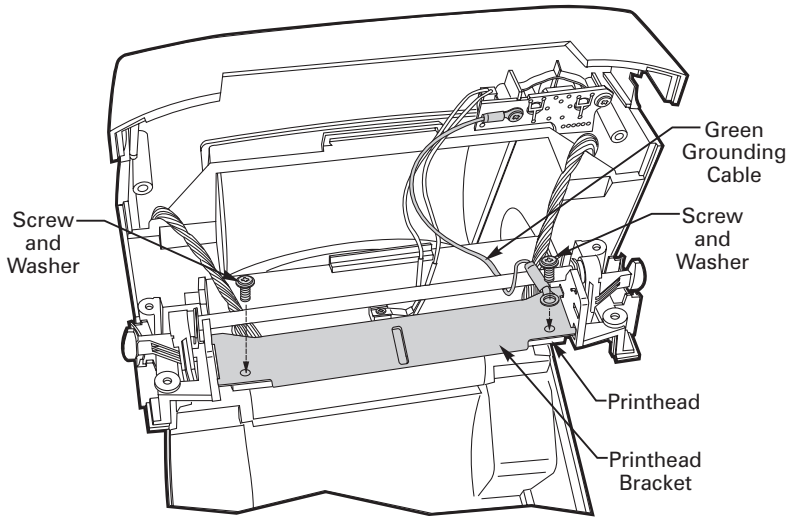

Figure 29
4. Refer to Figure 29. Reinstall the two screws and washers that secure the printhead to the printhead bracket.